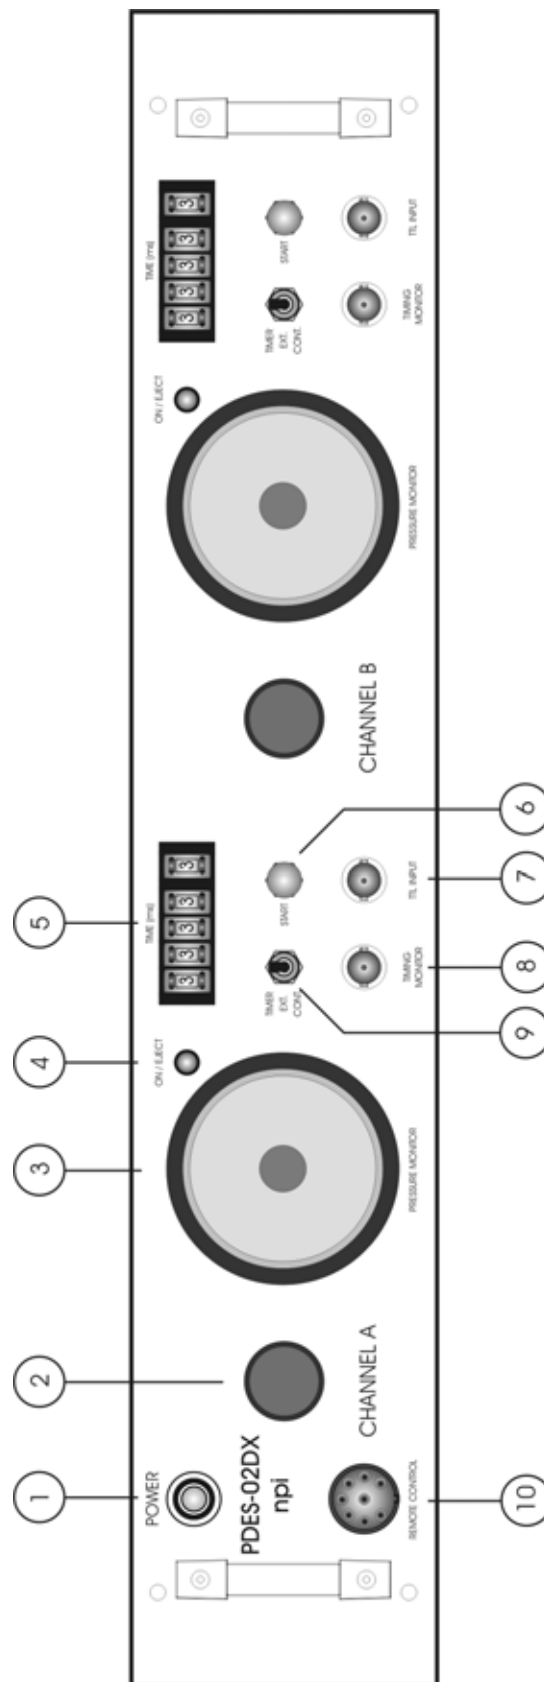

Figure 1: PDES-02DX front panel view (the numbers are related to those in the text below)
In the following description of the front panel elements, each element has a number that is related to that in Figure 1. The number is followed by the name (in uppercase letters) written on the front panel and the type of the element (in lowercase letters). Then, a short description of the element is given. Since both channels are identical, only one channel is described.
- ❑ Select the operation mode using the respective toggle switch at the front panel (see Figure 1).
- ❑ Use the START button to test the system. The START button can be used to start ejection in TIMER or EXT. mode. In TIMER mode pushing the START button starts ejection for the time set by the timer control (#5, Figure 1). In EXT. mode ejection lasts as long as the START button is pushed.